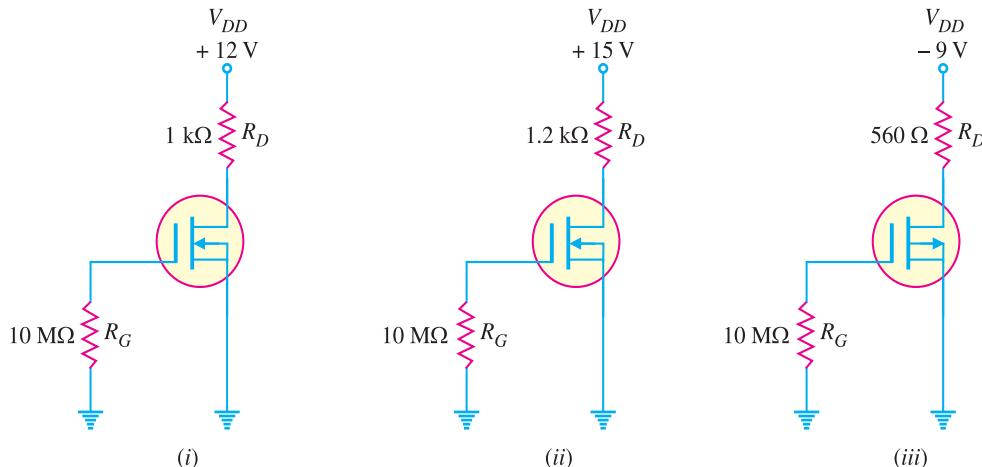

Fig. 19.67
9. Determine V_{DS} for each circuit in Fig. 19.67. Given $I_{DSS} = 8 \text{ mA}$.